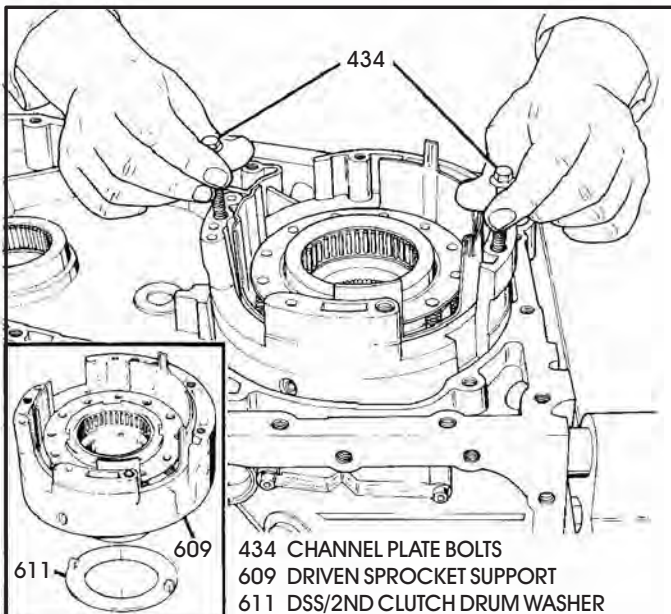

Figure 183
35. Install the two long 13mm bolts from the pump into the driven sprocket support across from one another. One of them should be located by the feed holes, as shown in Figure 183.
36. Using the two pump bolts as handles, install the driven sprocket support with a twisting motion into the case, as shown in Figure 183.